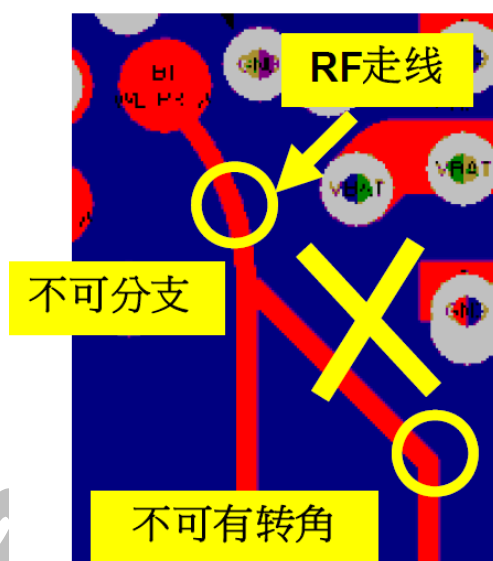

Figure 2-5 Feeder routing bends
3. When the feeder line needs to turn, it cannot be routed in a corner. Instead, it must be bent in an arc, as shown in Figure 2-5.